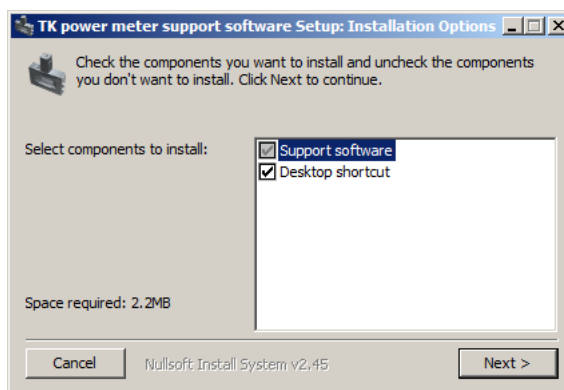

Figure A.12: Support software component selection.
- When the CD is inserted, the installer should start automatically, with the component selection panel shown in Figure A.12.